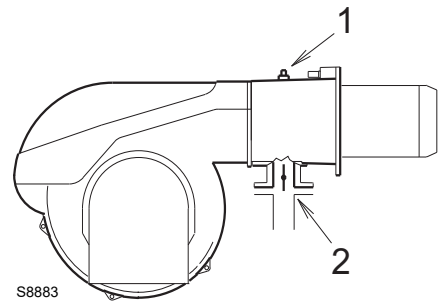

Fig. 22
Gas pressure measured at the test point 1)(Fig. 22), with:
Pressure loss at gas butterfly valve 2)(Fig. 22) with maximum opening: 90°.
- Subtract the combustion chamber pressure from the gas pressure measured at test point 1)(Fig. 22).
Gas pressure at test point 1)(Fig. 22)	= 16.9 mbar
To know the required gas pressure at test point 1)(Fig. 22), set the maximum output required from the burner operation, then:
- Read, on the right (column 1) the socket pressure 1)(Fig. 22).
pressure required at test point 1)(Fig. 22).